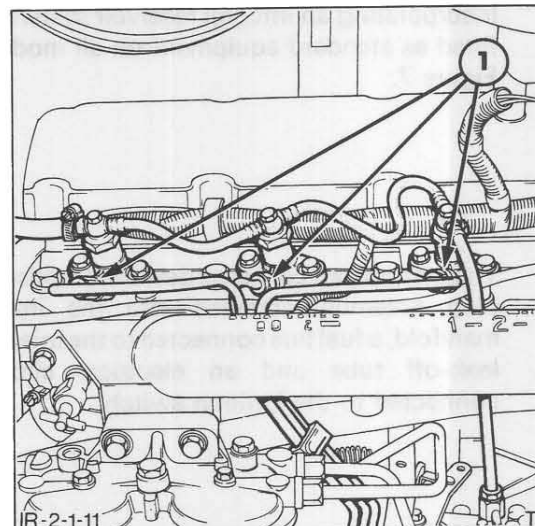

Figure 11
4. Loosen the injector line connections, Figure 11. Continue to crank the engine until air-free fuel is discharged from the connections. Tighten each connection in turn whilst the engine is still cranking.